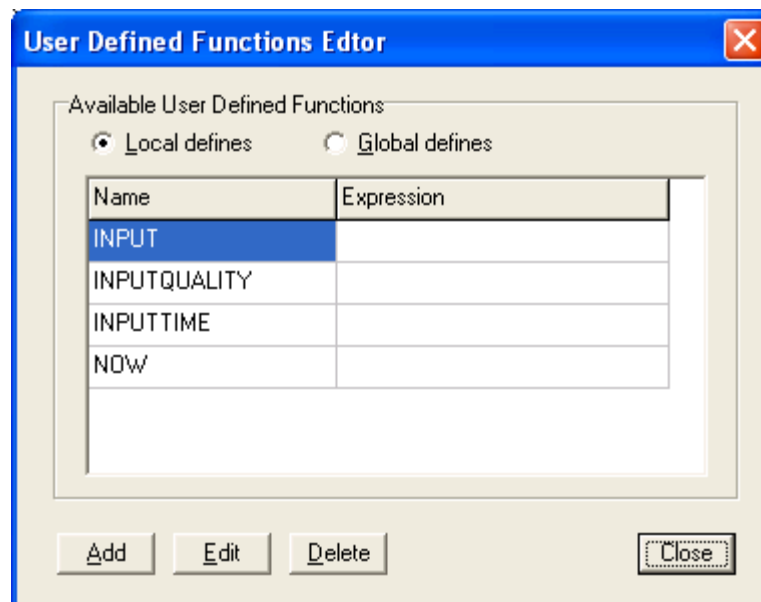

Figure 50 - User Defined Functions Editor
12. If required, from the **Select variable** window, click on the **Modify variables** button to access the **User Defined Functions Editor** (Figure 50) which allows you to add, change, or delete variables.